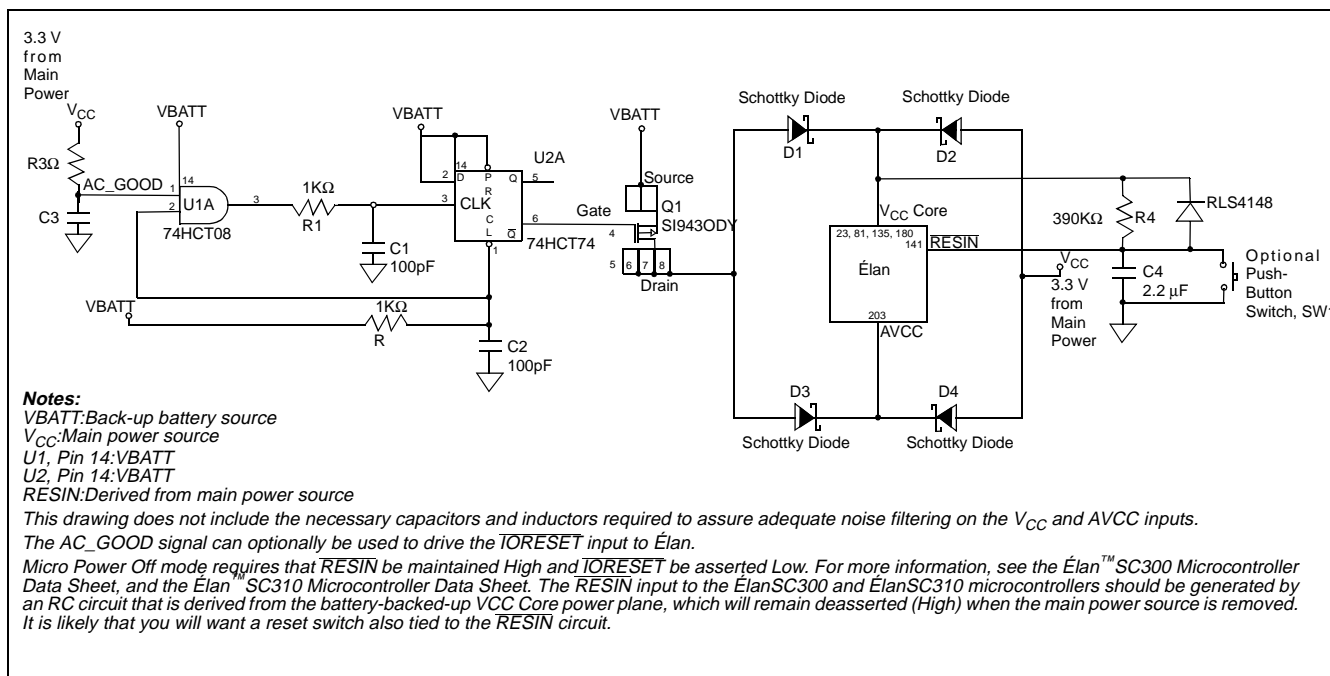

Figure 1. Clean-Transition Switching Circuit
- You should implement a switching circuit to allow a clean transition from the main power source to the back-up battery source when the system is put into Micro Power Off mode. This circuit should also gate off the back-up source from the VCC and AVCC pins until a main power source is present the first time. See Figure 1 for a circuit example. Table 1 shows the materials required for this particular circuit.
- If the system design guarantees that the back-up battery will be in place before the main power source is present, the following components may be deleted from Figure 1: U1, R1, and C1. The AC_GOOD input of U1 would then be tied directly to U2, pin 3. This is because the CLK input of U2 must only be clocked when VBATT is present. The AC_GOOD signal can also be used to drive the $\overline{IORESET}$ input to the ÉlanSC300.